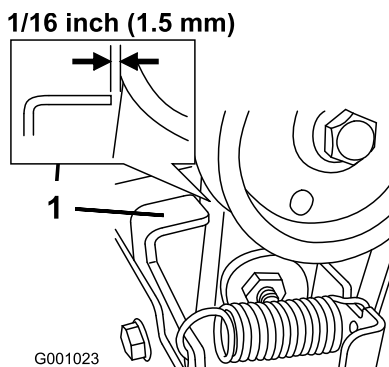

Figure 38
4. With the auger/impeller lever disengaged, ensure that the gap between the auger clutch assembly and the tab is 1/16 inch (1.5 mm) (Figure 38).